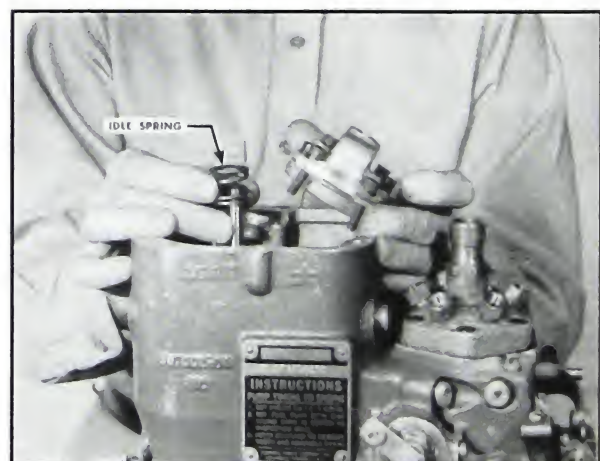

Fig. 5-366. Replace idling spring
1. Remove the governor top support and insert the idling spring. Fig. 5-366.